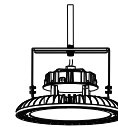

Figure 16
4. After installation, please wire in accordance with local connection standard, and make sure there is a good joint protective measures. (Figure 16). Users can adjust 50 degrees to left and right in vertical direction by adjusting the screw on the bracket.